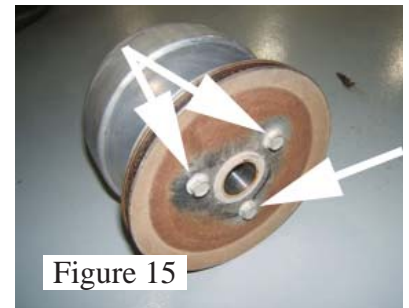

Figure 15
10. Remove three 7/16" bolts holding the starter / generator pulley to the back of the clutch and remove the pulley. (See Figure 15).